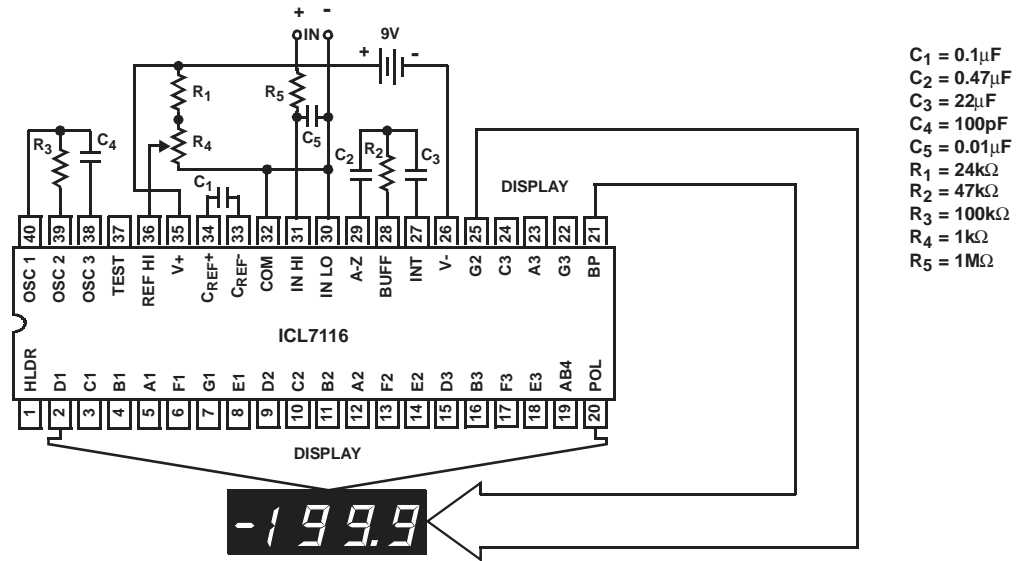
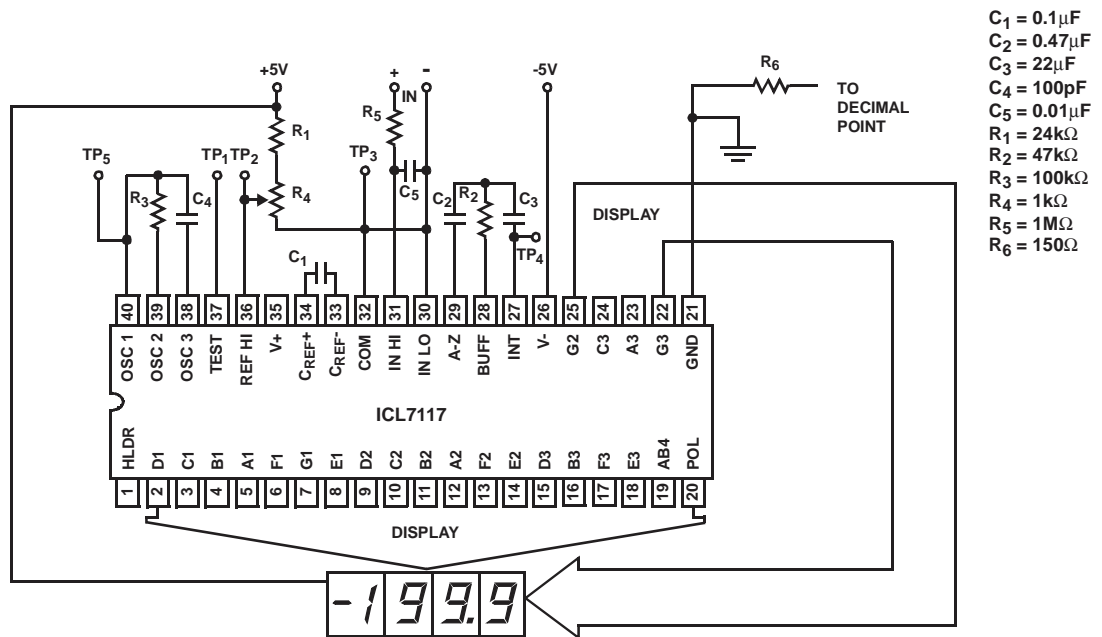

FIGURE 1. ICL7116 TEST CIRCUIT AND TYPICAL APPLICATION WITH LCD DISPLAY COMPONENTS SELECTED FOR 200mV FULL SCALE
FIGURE 2. ICL7117 TEST CIRCUIT AND TYPICAL APPLICATION WITH LED DISPLAY COMPONENTS SELECTED FOR 200mV FULL SCALE
3. Unless otherwise noted, specifications apply to both the ICL7116 and ICL7117. ICL7116 is tested in the circuit of Figure 1. ICL7117 is tested in the circuit of Figure 2.